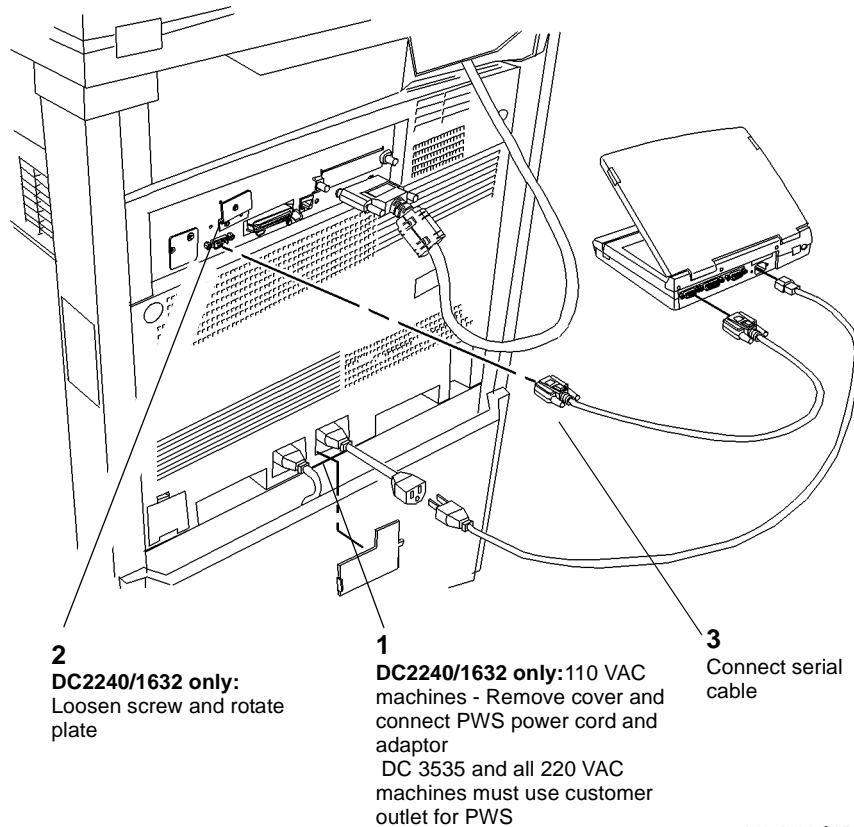

Figure 1 Connecting the PWS
3. Connect the Portable Work Station (PWS) to the machine (Figure 1).